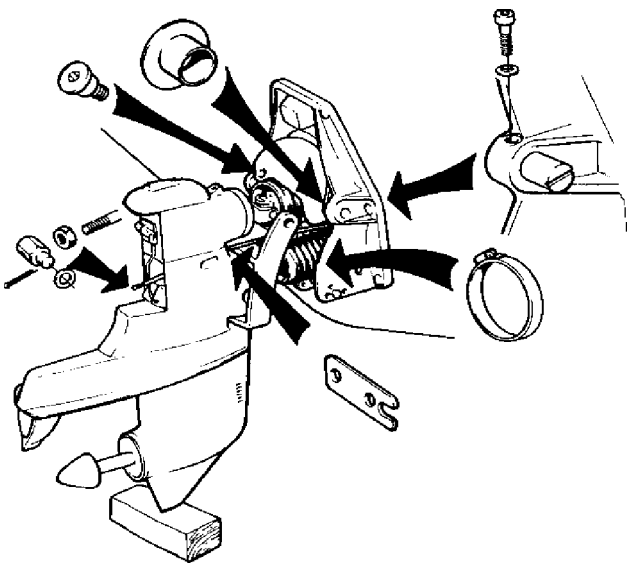

Fig. 47.
2. Lift the outboard over to the mounting collar and prop it up under the fin so that it comes up to the right height. See Fig. 47.